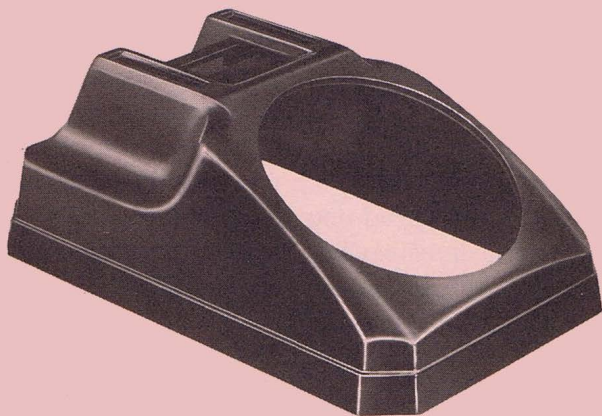

Figure 7. Housing Assembly.
b. Housing Assembly (fig. 7). The housing is made of a tough molded thermoplastic, tenite II, in either the standard black or one of the eight colors offered. A metal clip, located on the inside front portion, attaches to a hook lug on the baseplate; a captive screw on the back portion of the housing fastens the housing to the baseplate. All operating components are mounted on the baseplate, thereby allowing the housing to serve its proper function—that of a cover only.